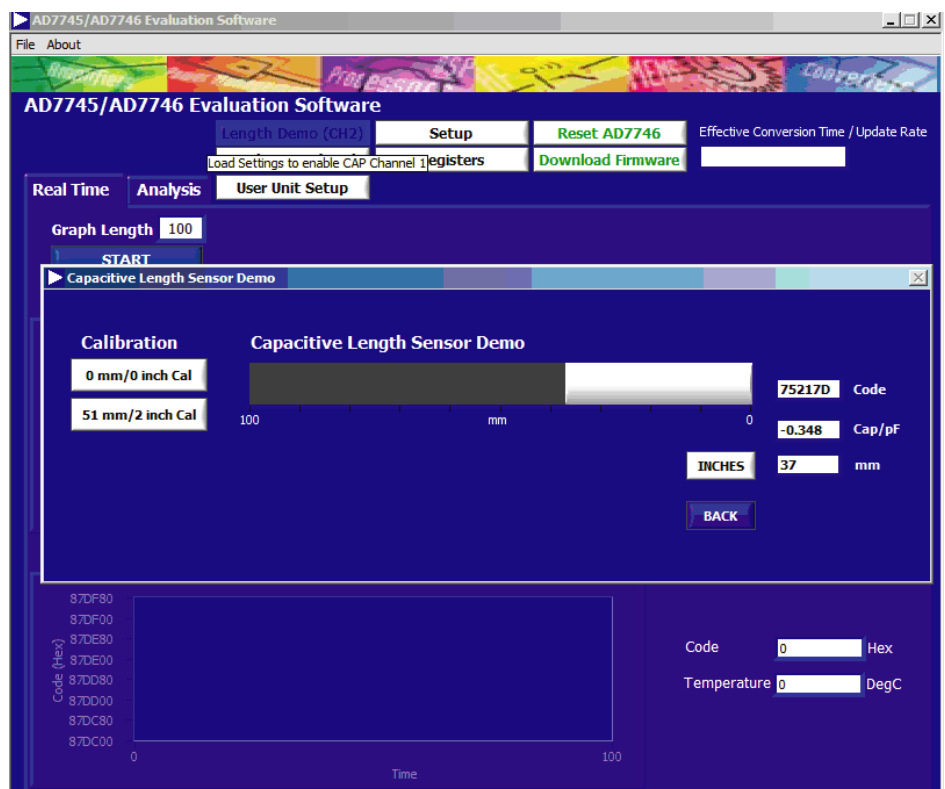

Figure 10. Capacitive Length Sensor Demo Window
| Renamed Schematic Section to Schematics and Artwork Section; Changes to Figure 10 | 11 |
- Click the **Length Demo (CH2)** button. This action enables continuous conversions on Capacitive Channel 2 in single-ended mode, enables EXCA as the excitation output pin, sets the update rate, and initializes CAPDAC A. The **Capacitive Length Sensor Demo** window appears (see Figure 10).
- Slide the ruler on the evaluation board. This action is mirrored on the screen. The code, capacitance, and length (in inches or mm) appear on the right side of the window (see Figure 10). These values change as you slide the ruler on the evaluation board.